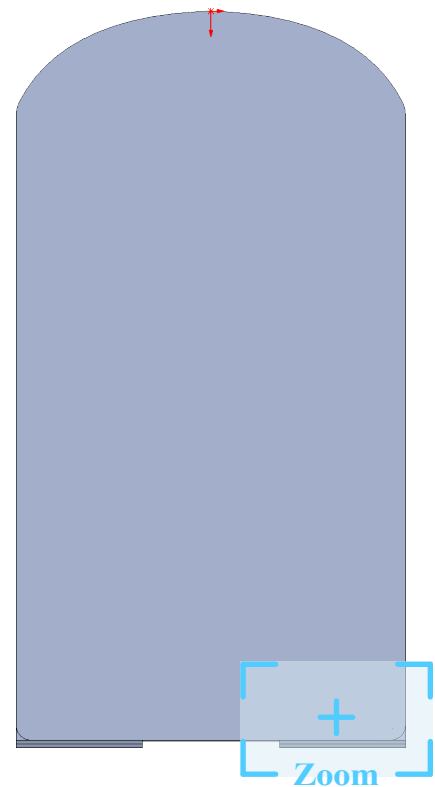

Fig. 29
Step 3. Zoom in on rear right side, **Fig. 29**.